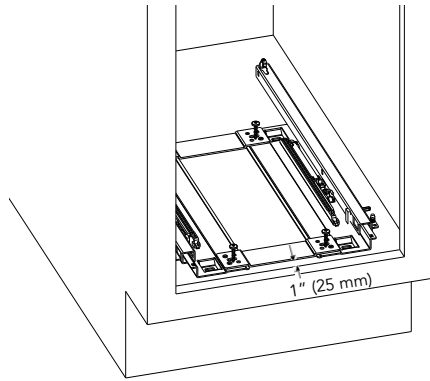

FIG. 1A
Place the slide assembly in cabinet, center and set back 1" from the front of cabinet. With a pencil, mark the center of the (4) screw holes. See Fig. 1A